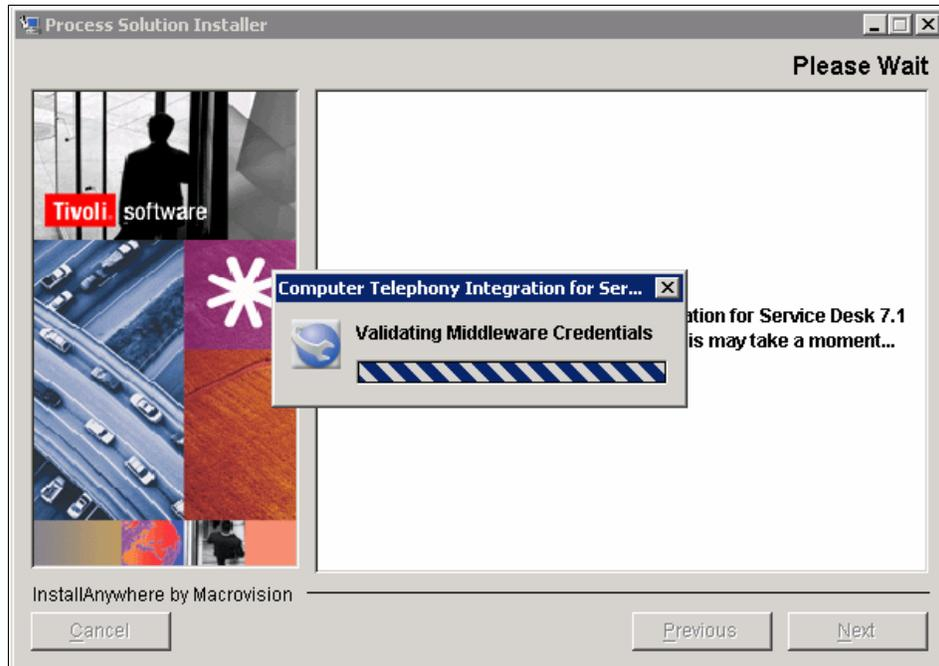

Figure 8-9 Validating middleware credentials
16. Click **Next** to continue. The middleware credentials are validated, which is shown in Figure 8-9 on page 228.